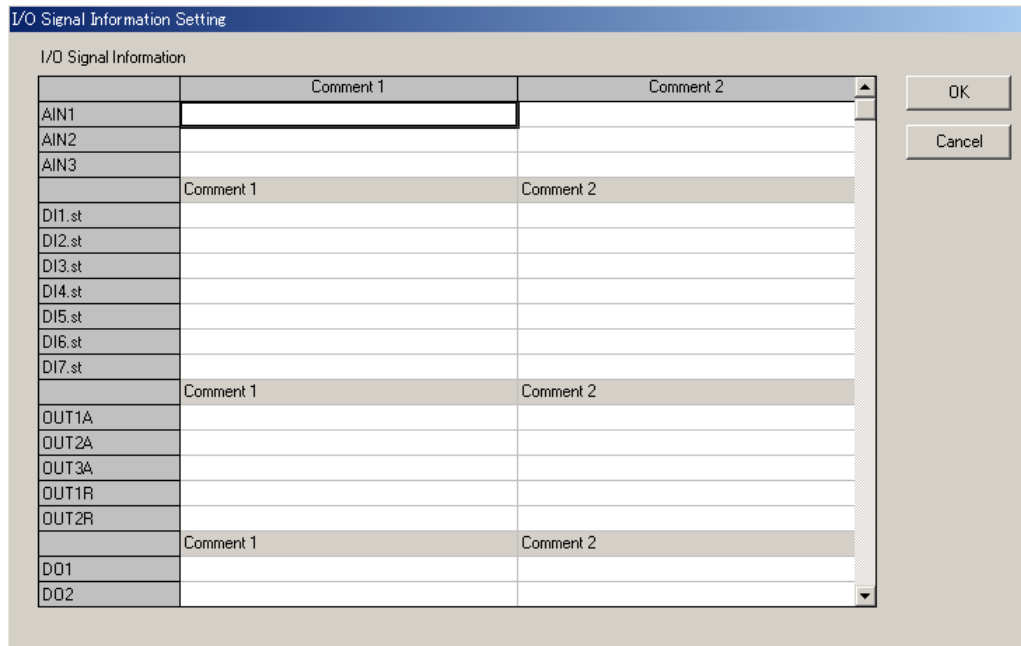

Figure 7.2.1 [I/O Signal Information Setting] Dialog Box
- (1) From the tool menus, click <File>, then <Information>, then <I/O Signal Information>. The [I/O Signal Information Setting] dialog box (Figure 7.2.1) appears.
- (2) Type the necessary comments in a text box for each signal. (Use the “enter” key of PC to register the necessary comments)
- (3) Click the <OK> button. The [I/O Signal Information Setting] dialog box closes.
- (4) Finally, save the data on disk.